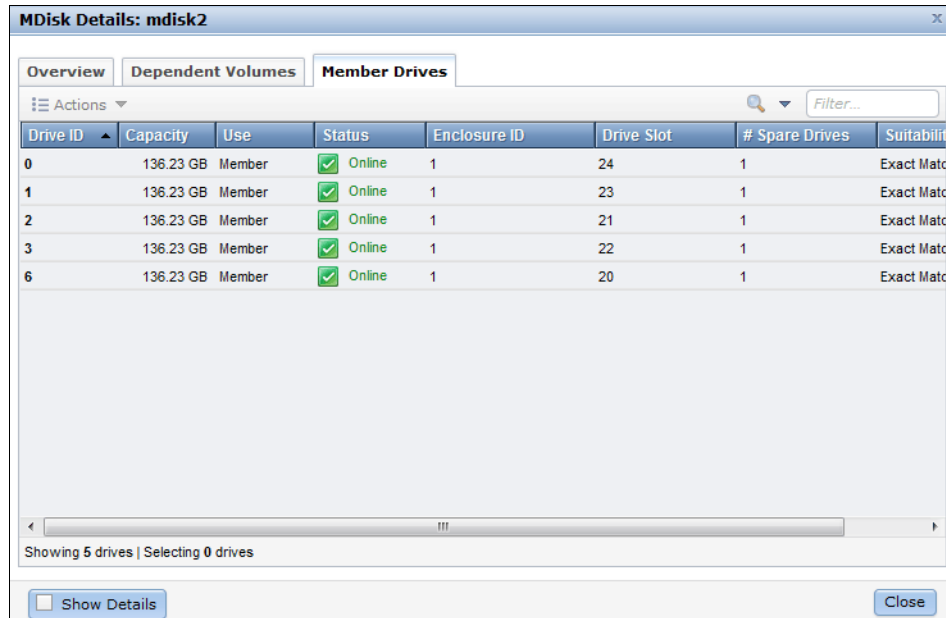

Figure 8-58 Member Drives tab
- ▶ The *Member Drives* tab is only used with array MDisks. In the Member Drives tab, you find all the member drives of this MDisk (Figure 8-58). Also, all actions described in 8.1.1, “Actions on internal drives” on page 318 can be performed on the drives listed here.